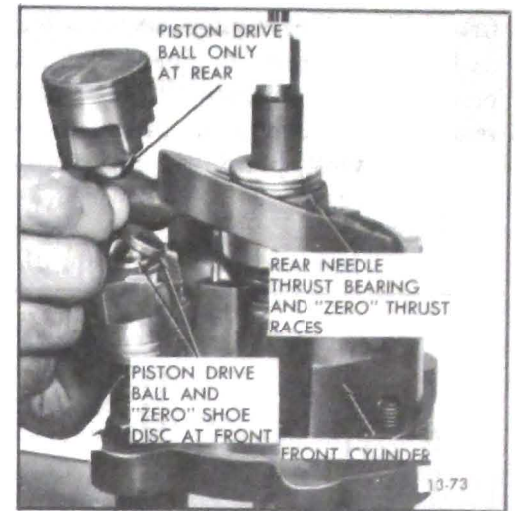

Figure 13-97 Installing Piston into Cylinder Half
7. Rotate shaft and swash plate assembly until high point of swash plate is over No. "1" cylinder bore. Position No. "1" piston onto swash plate (see Figure 13-97) and lower the piston and swash plate so the front end (notched end - see Figure 13-97) of the piston enters the cylinder bore.